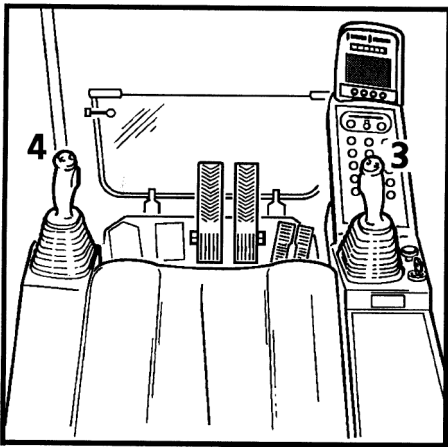

Fig. 20
The right lever (Fig. 20, pos. 3) controls the boom and the bucket movements.
The left lever (Fig. 20, pos. 4) controls the stick and the swing movements